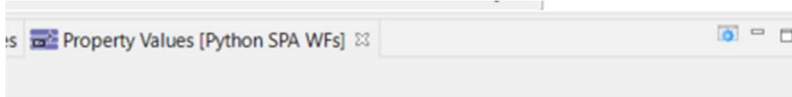

Figure 10 Open PV Definition Editor
- Select a function, select Property Values tab and click on the small blue rectangle on the right (Open PV Definition Editor) as shown in Figure 10.